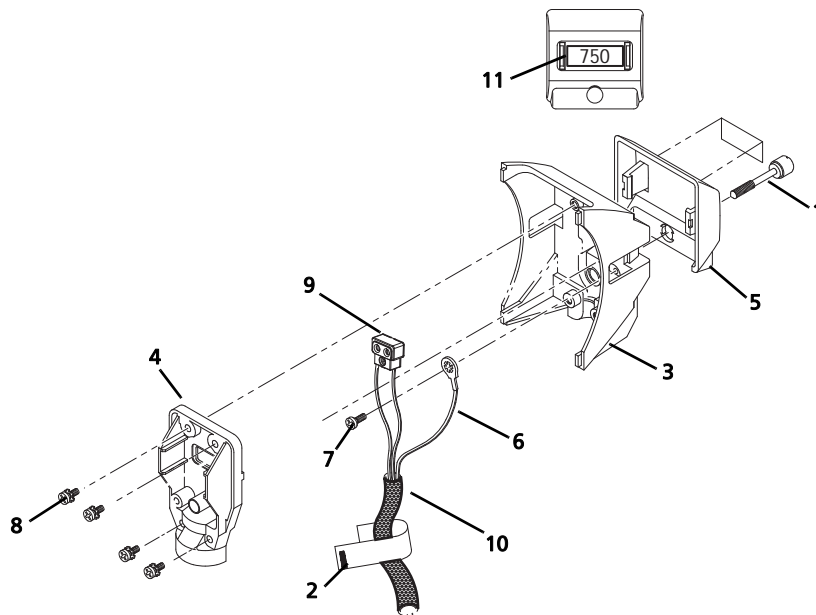
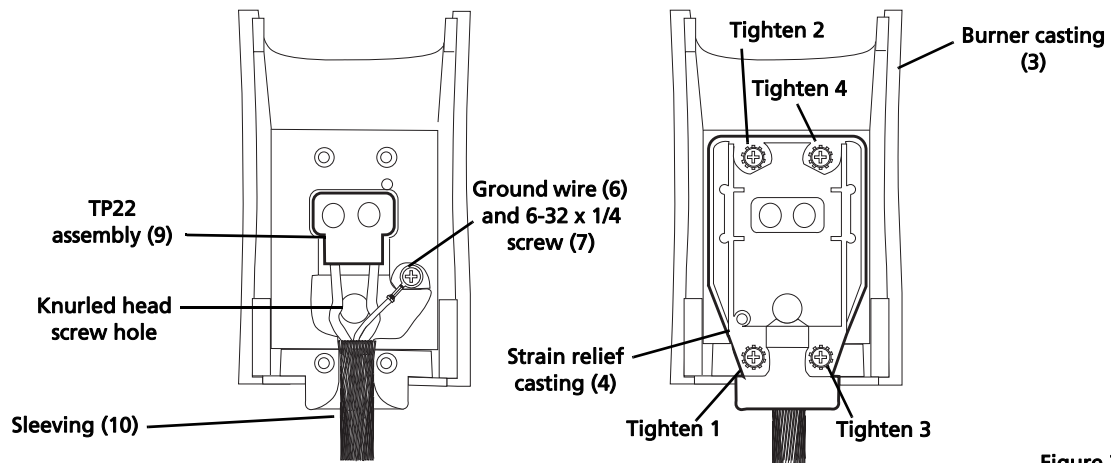

Figure 2
Figure 3
1. Install the ground wire (6) and the TP22 assembly (9) in the sleeving (10). See Figure 3.
2. Snap the focus handle (5) onto the burner (3). See Figure 2.
3. Secure the ground wire lug (6) onto the burner casting (3) using screw (7).
4. Place the TP22 assembly (9) into the burner casting (3). See Figure 3.
5. Insert the screws (8) into the four positions in the strain relief casting (4). See Figure 3.
6. Position the sleeving assembly (10) as shown in Figure 3. Fold the sleeving so it fits cleanly in the slot between the burner and the strain relief.
7. Place the strain relief (4) on the burner casting (3). Loosely attach the screws (8). The TP22 assembly (9) must be centered in the strain relief opening (4). See Figure 3.
8. To guard against stripping the screws, tighten them in the order shown in Figure 3.
9. Make sure the focus handle is secure, then insert the knurled head screw (1) through the handle (5) into the burner casting (3). Tighten securely.